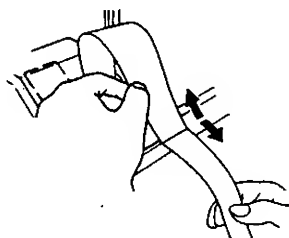

Fig. 10
6. When the paper comes out for a enough length, open the folded end. (Fig. 10)